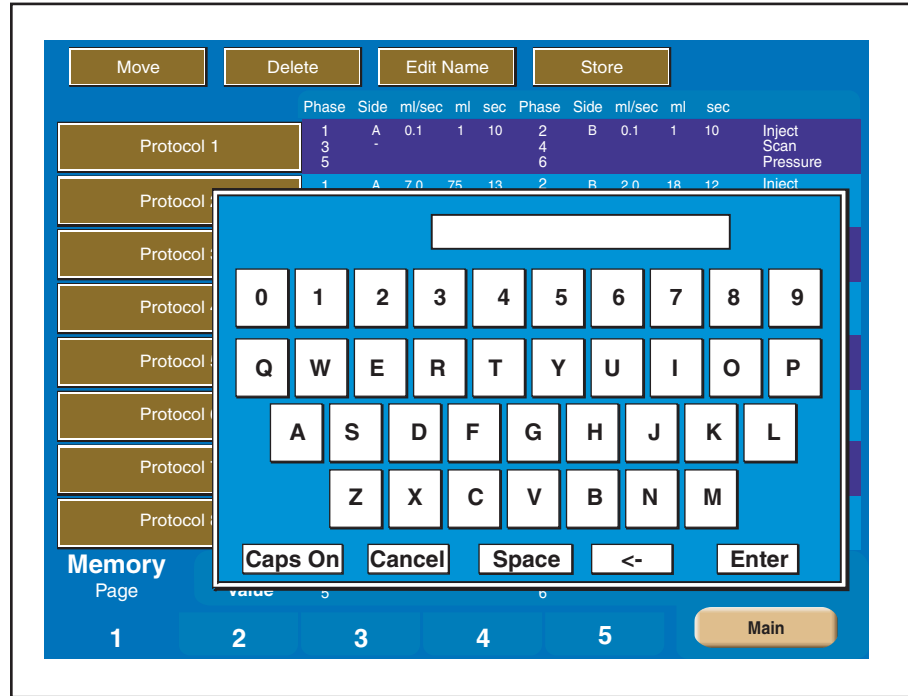

Figure 3-1-10 Memory Keyboard
Refer to Figure 3-1-9 and Figure 3-1-10. This feature is only accessible from the console.
5. Press the desired memory location key **A**. A keyboard will appear in order to name the protocol. Refer to Figure 3-1-10.
4. Press the key of the protocol to be renamed and enter the new name using the displayed keyboard (shown in Figure 3-1-10). Press the keyboard [Enter] key **J** when finished. The protocol will be stored under the new name at the same memory location.
Access the ability to set the Time and Date by pressing the [Time] key (D) in Figure 3-1-10).